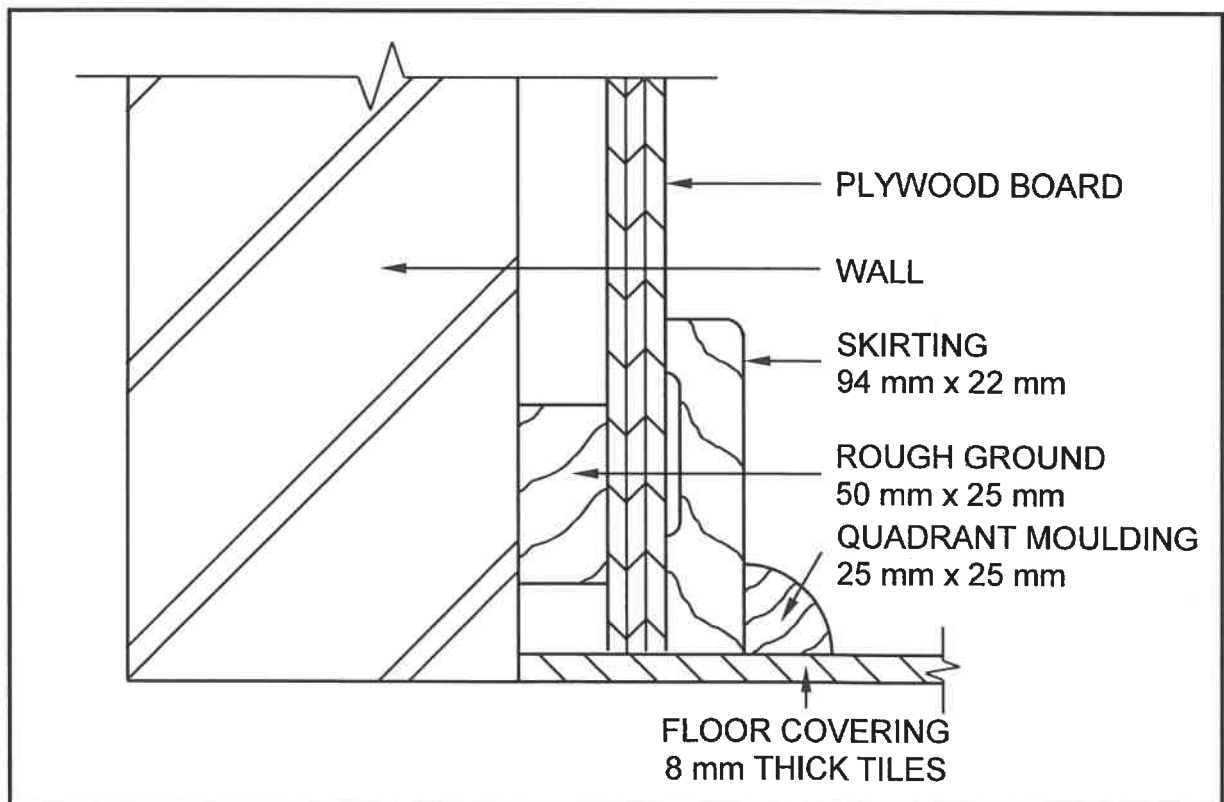

FIGURE 3.3
3.3 FIGURE 3.3 below shows the sectional left view at the bottom of the wall panelling.
Use ANSWER SHEET 3.3 and draw the front view of FIGURE 3.3 between the broken lines. Use scale 1 : 2 and show ALL the hidden detail.